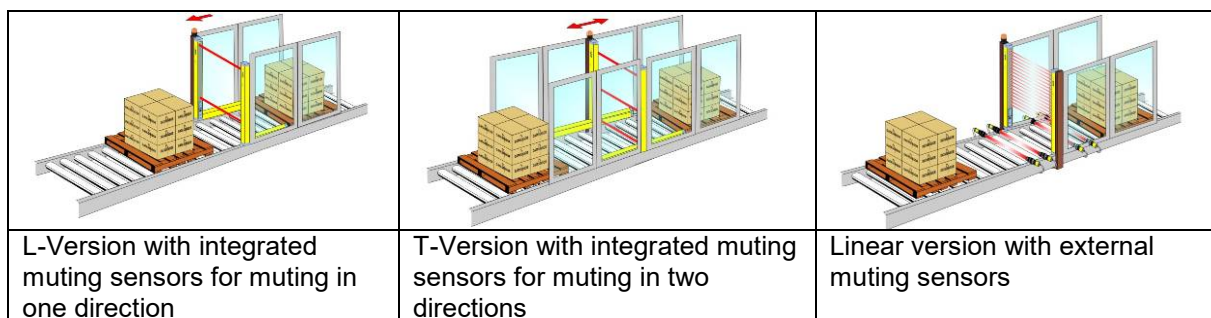

Fig. 39 – Application examples for the muting function
- The muting function excludes the light curtain during operation and maintains the OSSD output switching elements in an activated state, based on the specific operating requirements (Fig. 39).